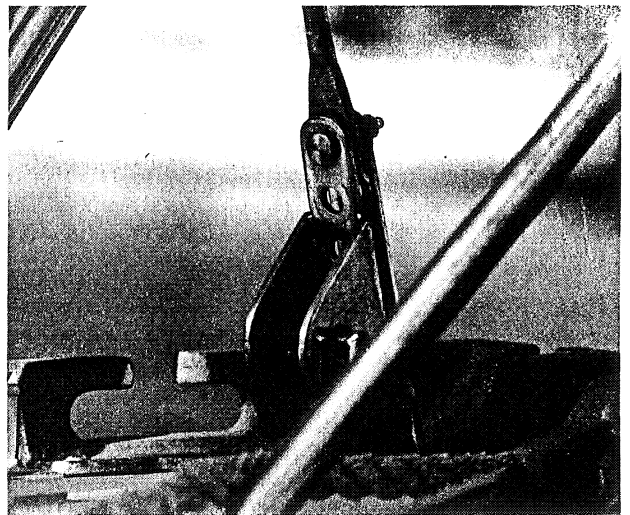

Fig. 7
7. put the 4 lower shrouds and forestay into position. The latter is fixed at the bows to two metal battens with holes ; for initial installation use the first hole (Fig. 7).